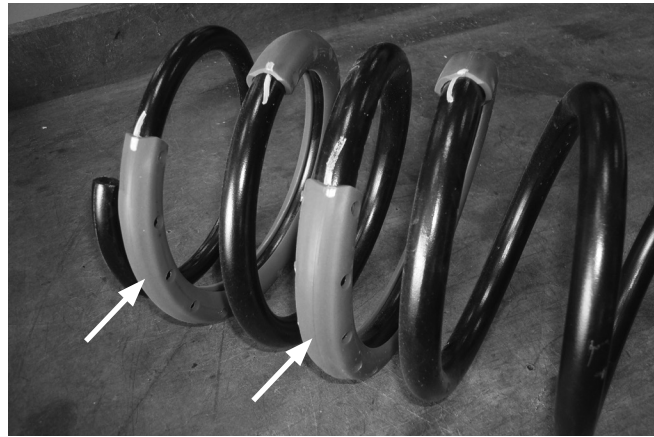

Fig. 4
- With the spring removed, remove and discard the spring rubber isolators off the top of the coil springs (Fig. 4).